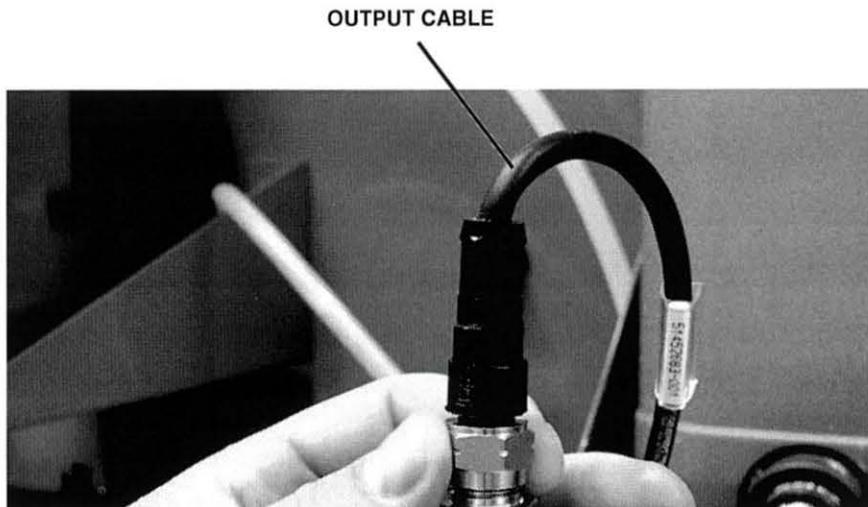

Figure 20. Output Cable
A. Locate the output cable for the module, as shown in figure 20.